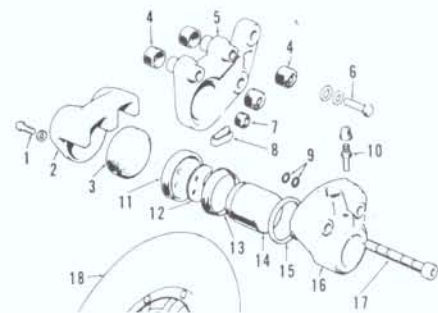

Fig. K13-32—View of front brake caliper assembly.
DISC BRAKE. Caliper pads (3 & 11—Fig. K13-32) may be renewed after removing front wheel assembly. Remove screw (1) and "B" pad (3). Squeeze brake lever to push "A" pad (11) out of caliper assembly. Loosen bleeder valve (10) and push piston (14) back into "A" caliper (16). A waste container should be available to catch brake fluid coming from bleeder valve
To disassemble caliper unit, disconnect and cap hydraulic line to caliper. Loosen caliper bolts (17—Fig. K13-32) and remove mount bolts (6). Remove caliper bolts (17), being careful not to damage dust seals and "O" rings (19). Piston (14) may be removed by forcing compressed air into hydraulic line hole or by reattaching "A" caliper to brake line and squeezing hand lever. All parts should be thoroughly cleaned with alcohol. Standard internal diameter of "A" caliper is 38.180-38.200mm (1.5032-1.5039 inch). Caliper should be renewed if scratched excessively or worn to more than 38.215mm (1.5047 inch) internal diameter. Standard diameter of piston (14) is 38.115-38.148mm (1.5006-1.5019 inch). Piston should be renewed if pitted, scratched or worn to less than 38.105mm (1.5002 inch) in diameter. Internal parts should be coated with clean brake fluid prior to reassembly. Use heat resistant grease, recommended for use on disc brakes, on caliper bolt "O" rings. Caliper holder (5) should move freely on caliper bolts when unit is assembled. Bleed hydraulic system of air after reinstalling caliper assembly.